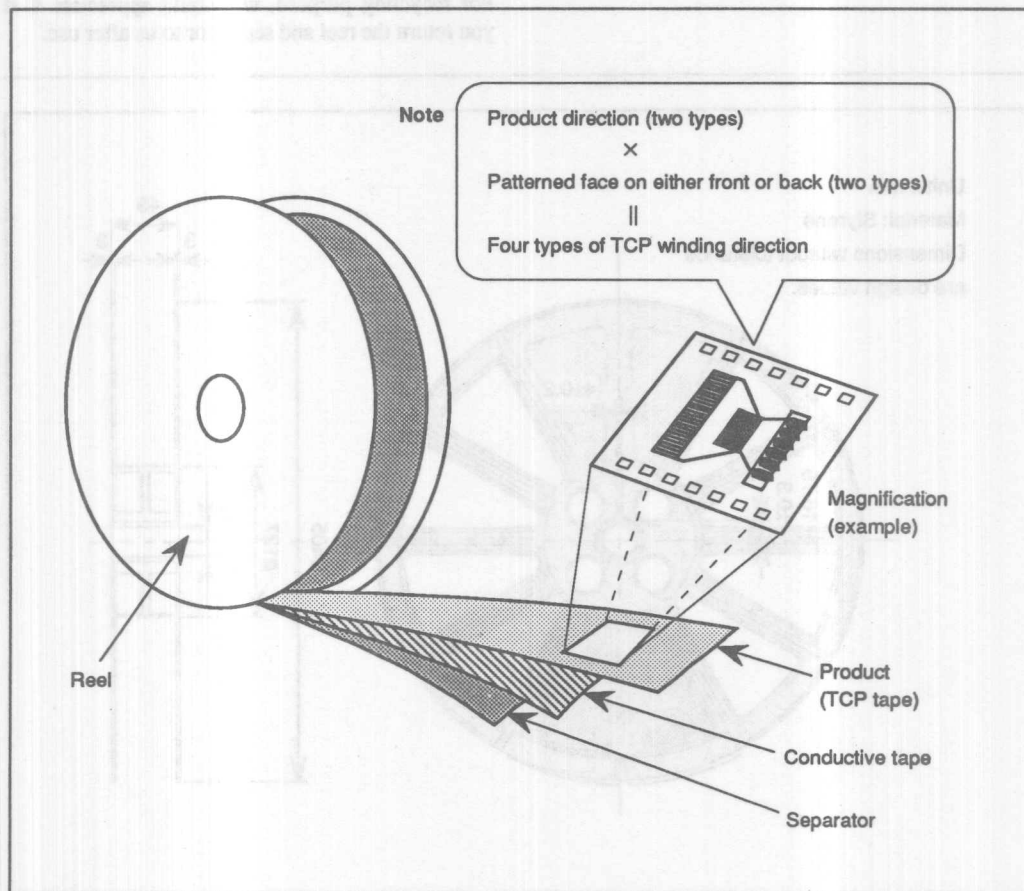

Figure 8 Example of TCP Winding Direction
**TCP Winding Direction:** Figure 8 shows one way of winding TCPs. The combination of two product directions when pulling it out from the reel and placement of the patterned face on either the front or back of the tape makes for four types of TCP winding directions.